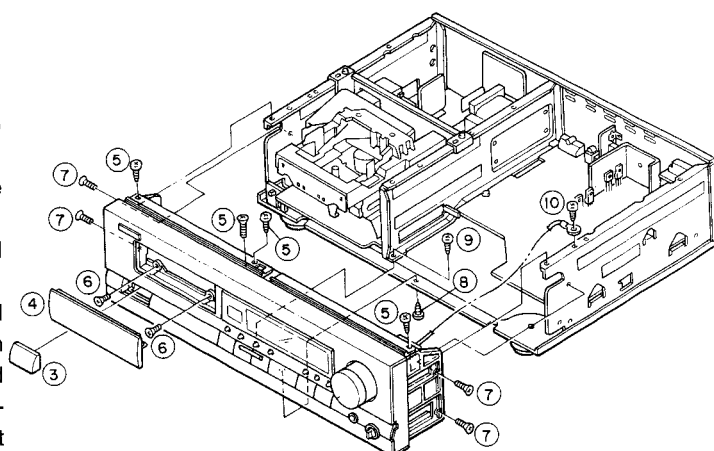

Fig. 2-2
■ Assembly of the Front Panel (Assembly of the Indicator and Front Panel): See Fig. 2-2
1. Take off the knob ③ with the Link from the power switch.
2. Take off the Lid ④ from the mechanism cassette tray plate.
3. Remove the 4 screws ⑤ from the top of the Front Panel.
4. Remove the 2 screws ⑥ attaching the mechanism and the Front Panel Assembly.
5. Remove the 4 screws ⑦ from both sides of the Front Panel Assembly.
6. Remove the screw ⑧ from the Bottom Cover edge center.
7. Remove the screw ⑨ from through the hole at the top center.
8. Remove the screw ⑩ that attaches the earth wire to the right side chassis.